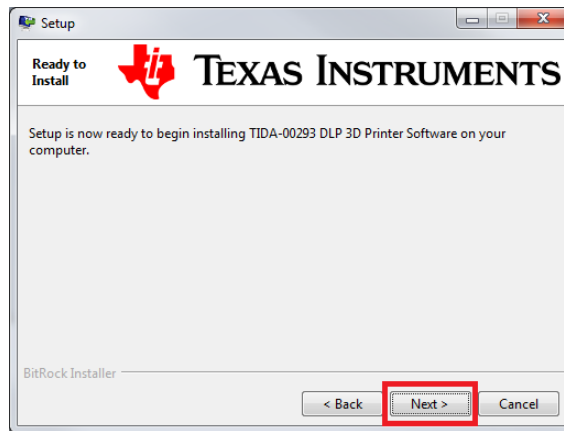

Figure 2-15. DLP 3D Printer Reference Design Installation Confirmation
6. The installer is ready to install, click the **Next** button to start the process, as shown in Figure 2-15.